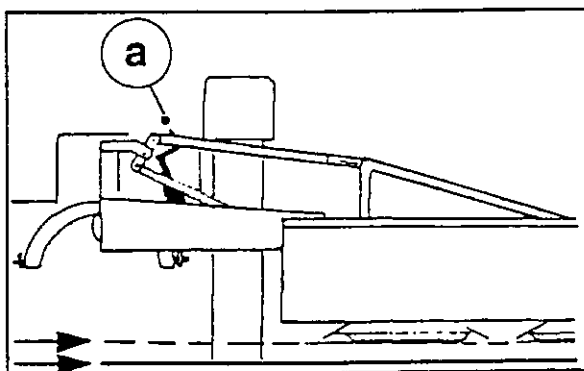

fig. 4-15
5. Adjust bottom links via lever (a) so that the machine hangs horizontally when lifted (fig. 4-15).